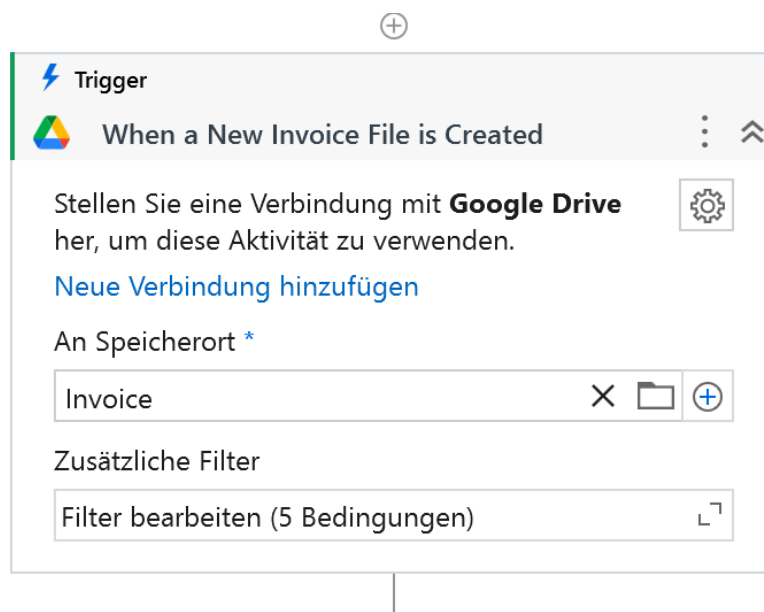
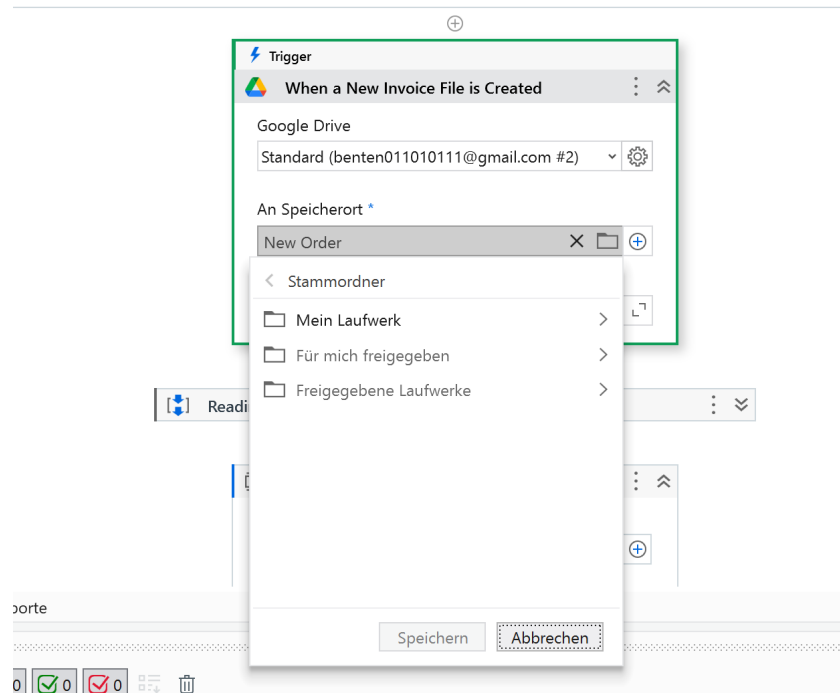

Figure 2: Screenshot for Google trigger activity
Figure 3: Screenshot for Google folder
- After cloning, open the project. You will notice that the trigger event is not connected to Google Drive. For this click on the Trigger event (see figure 2) at the beginning of the main sequence and connect your Google account. Make sure to give UiPath enough permissions. Next you have to create a folder in Google Drive and connect the trigger to this folder. After creating the folder, you have to click on the small folder symbol and look for your folder using the drop down menu as the path is not correct otherwise - only the correct name **is not enough**. See figure 3.